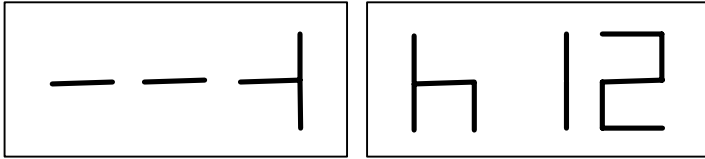

Fig. F5.7 “Final valve alignment with the mark on the tyre” message
- a) Bring the valve to the 12 o'clock position and press [P4]  to continue. In this case, the message seen in figure F5.7 will be displayed.